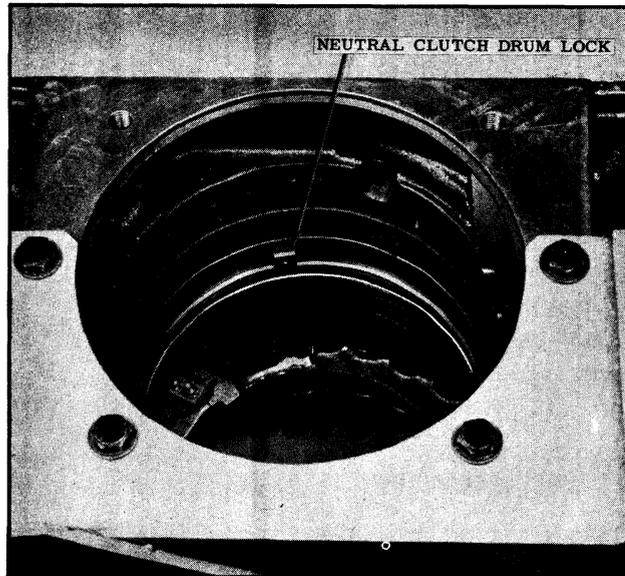

Fig. 3-88 Lock Installation
1. Install neutral clutch drum lock into the case and retain with petrolatum. (See Fig. 3-88)